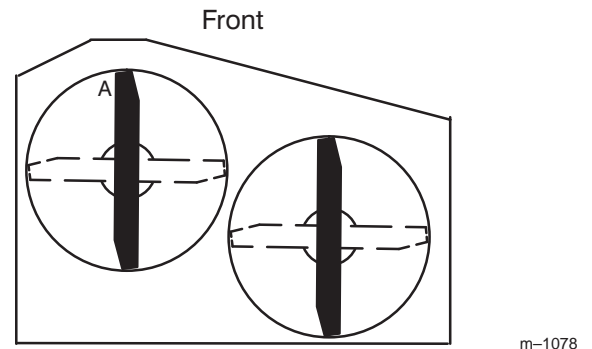
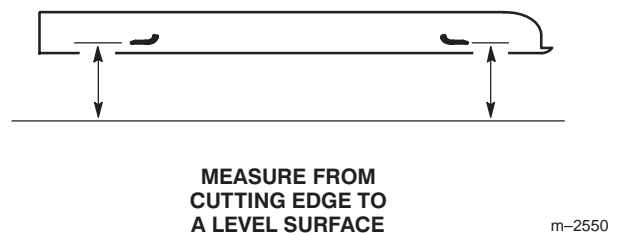

Figure 54
Figure 55
3. With the machine on level surface, position one blade front-to-rear (Fig. 54). Measure at "A" and from level surface to the cutting edge of the blade tips (Fig. 55).